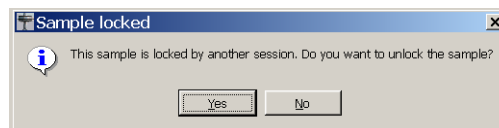

Figure 4.11 - Sample locked window
6. If the window in Figure 4.11 appears, then APEX2 thinks the database is already in use. Answer "Yes" to close the window.